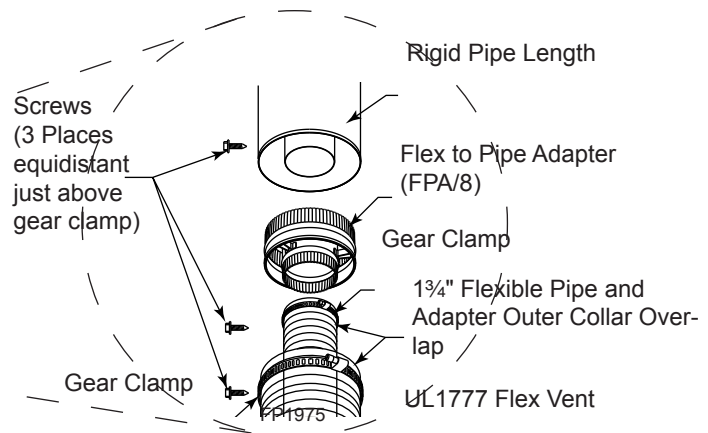

Figure 37 - Typical Pipe Connection
2. Review *Figure 37* and corresponding instructions for proper overlap, clamp and screw placement.